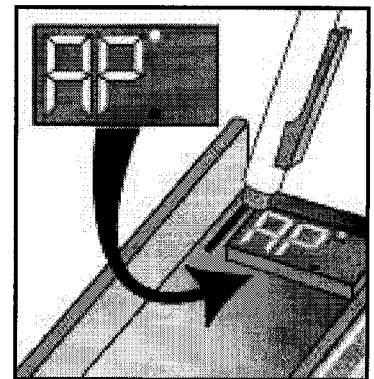

Figure 15 - Indicates Amp Manager Mode.
1. 'ACTIVATE-RELEASE' when display cycles to "AP" (PrA Mode 09) See **Figure 15**. "AP" will be followed by "OFF" code.